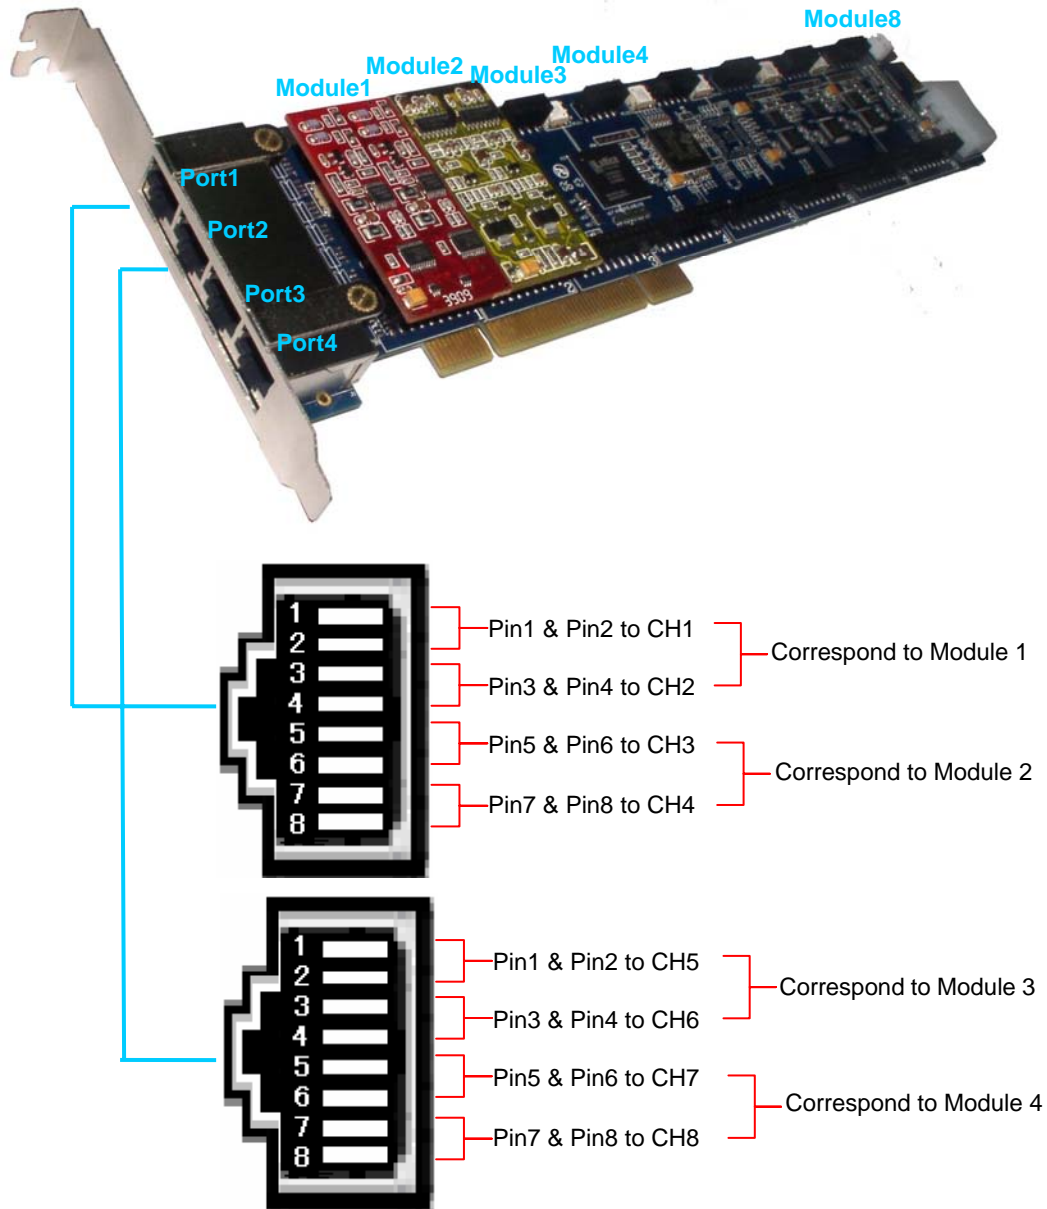

Figure 2-9 Relations among RJ45 interface, Channel and Module
Figure 2-9 below illustrates the corresponding relations among the RJ45 interfaces on the motherboard, the channels and the modules.
- 1) Each RJ45 interface is only related to modules on the corresponding position. As shown in Figure 2-9 above, the interface Port1 only corresponds to Module1 and Module2. It doesn't matter that what kind of modules (FXO, FXS or FXC) Module1 and Module2 are. Likewise, Port2 are related to Module3 and Module4 and the like.